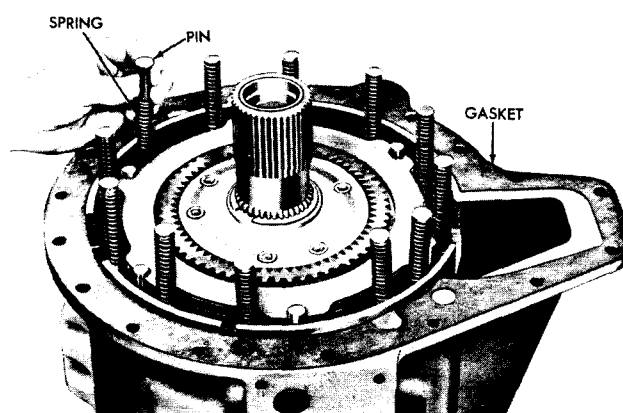

Fig. VII-21. Installing clutch piston return springs and guide pins
(9) Install the transmission housing rear gasket. Install 12 springs and pins (fig. VII-21).